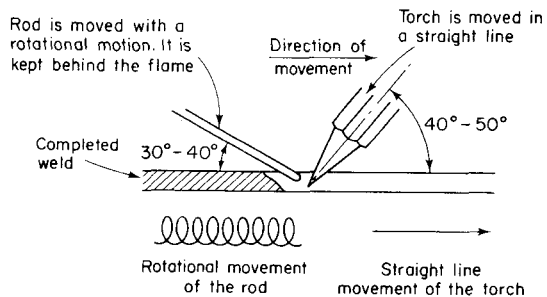

Fig. 4.149 Rightward welding
2. **Rightward welding.** It is difficult to weld thick steel plates by using the leftward method and the rightward method is then used (Fig. 4.149). The advantages of rightward welding are as follows: